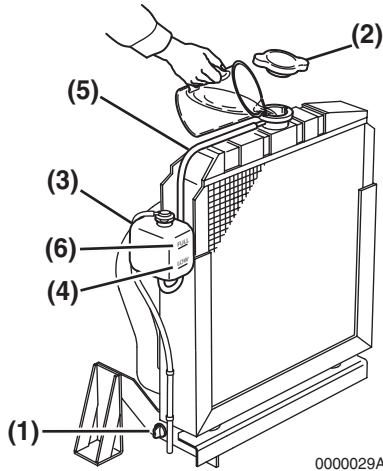
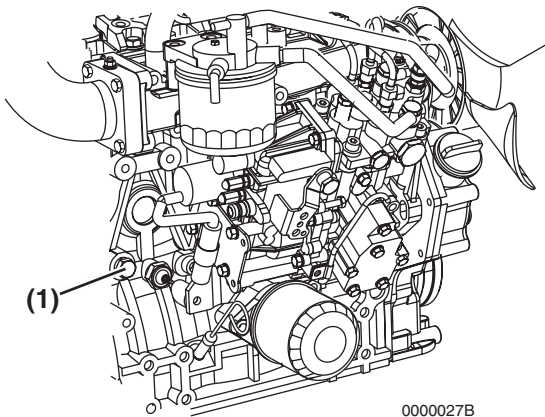
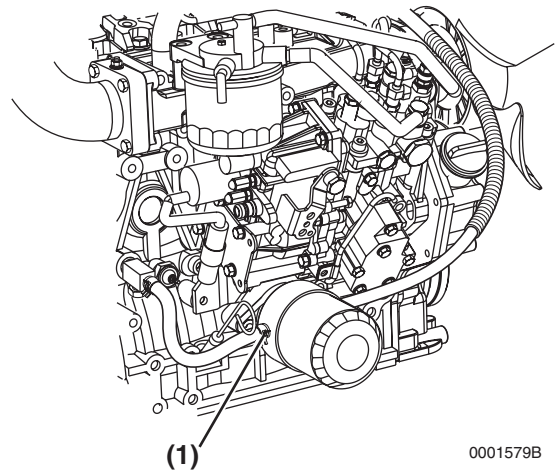

Figure 5
Figure 6
Figure 7
1. Check to be sure the radiator drain plug is installed and tightened or the drain cock (Figure 5, (1)) is closed. Also make sure the coolant drain plug (Figure 6, (1)) in the cylinder block is closed or the oil coolant hoses (Figure 7, (1)) are installed at the oil cooler.
2. Remove the radiator cap (Figure 5, (2)) by turning it counter-clockwise about 1/3 of a turn.
4. Reinstall the radiator cap (Figure 5, (2)). Align the tabs on the back side of the radiator cap with the notches on the engine coolant filler port. Press down and turn the cap clockwise about 1/3 of a turn.
5. Remove the cap of the reserve tank (Figure 5, (3)), and fill it to the LOW (COLD) mark (Figure 5, (4)) with engine coolant. Reinstall the cap.
6. Check the hose (Figure 5, (5)) that connects the reserve tank (Figure 5, (3)) to the radiator. Be sure it is securely connected and there are no cracks or damage. If the hose is damaged, engine coolant will leak out instead of going into the reserve tank.
- Run the engine until it is at operating temperature. Check the level of engine coolant in the reserve tank. When the engine is running and the engine coolant is at normal temperature, the coolant level in the tank should be at the FULL (HOT) mark **(Figure 5, (6))**. If the engine coolant is not at the FULL (HOT) mark **(Figure 5, (6))**, add additional engine coolant to the reserve tank to bring the level to the FULL (HOT) mark.
- Check the level of engine coolant in the reserve tank. When the engine is cold, the level in the tank should be at the LOW COLD mark **(Figure 5, (4))**.